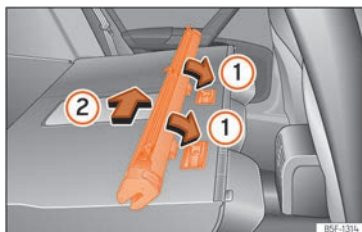

Fig. 127 Assembling the net partition in the rear seat backrests.
- Place the net casing in the rail slots in the direction of the arrows » **Fig. 127 ①**.
- Push the casing towards the left side of the vehicle in the direction of arrow » **Fig. 127 ②** and as far as it will go.
»» Fig. 127 ②.
»» Fig. 127 ①.